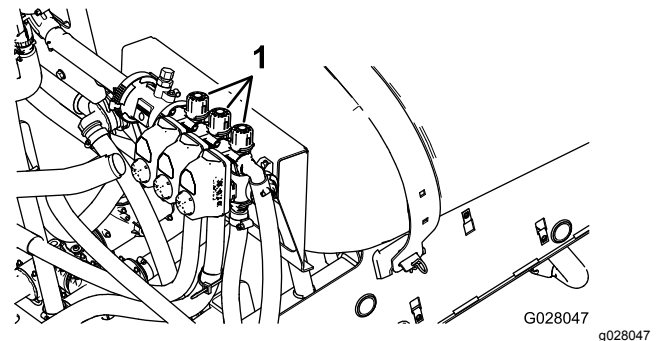

Figure 86
2. Turn off the left-section switch and adjust the left section-bypass valve (Figure 86) until the pressure reading is at the previously adjusted level (typically 2.75 bar or 40 psi).
4. Adjust the right section-bypass valve (Figure 86) until the pressure reading is at the previously adjusted level (typically 2.75 bar or 40 psi).
6. Adjust the center section-bypass valve (Figure 86) until the pressure reading is at the previously adjusted level (typically 2.75 bar or 40 psi).